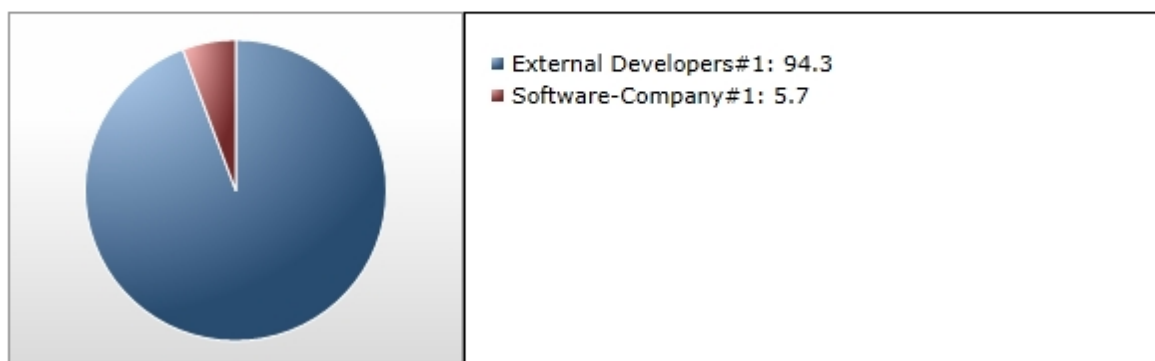

Figure 2: Utilization of the Developer role
- Let's take a look at Figure 2, which shows the utilization of the Developer role